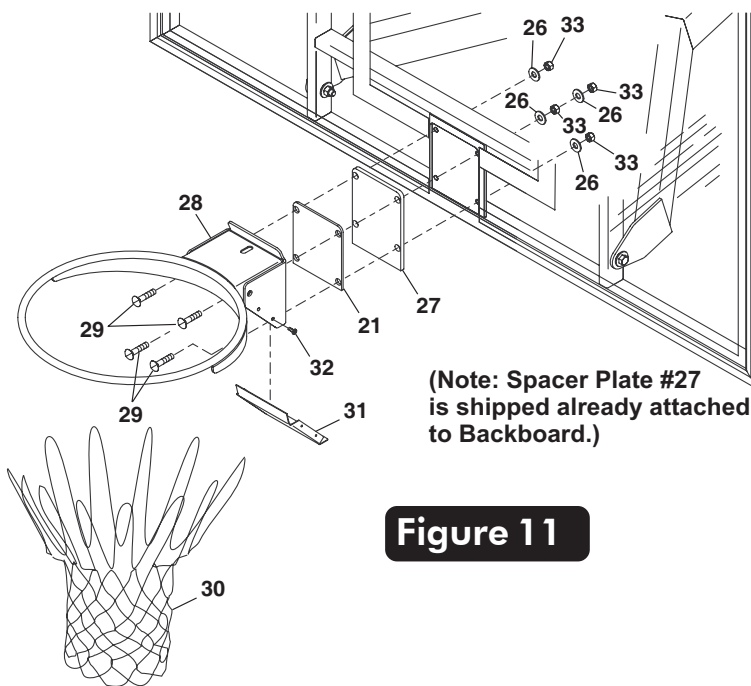

Figure 11
16. Remove protective backboard covering and mount Goal Assembly (#28) and Rim Pad (#21) to Backboard, as shown in Figure 11, using four bolts (#29), four washers (#26), and four locknuts (#33). (Note: Spacer Plate #27 is shipped already attached to backboard.) Tighten fasteners finger tight, leave them loose enough to level rim.
18. Attach Rim Cover Plate (#31) using four screws (#32). See Figure 11.